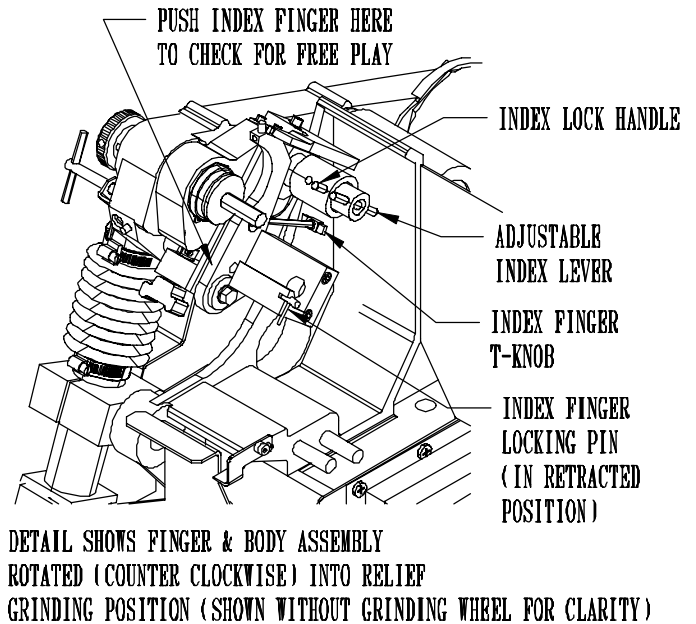

FIG. 6
The Finger and Body Assembly of the grinding head rotates on the Grinding Head Housing to change positions between spin grinding and relief grinding. To change the position of the finger and Body Assembly you have to pull out the Plunger Pin on the left side of the Grinding Head Housing. See FIG. 5. When you are going to perform spin grinding operations the Finger and Body Assembly must be rotated clockwise (looking at it from the right). This rotates the fingers out of the reel blade path. See FIG. 5. When you are going to perform relief grinding operations the Finger and Body Assembly must be rotated counter clockwise. This rotates the finger into position to touch and control the reel blades. See FIG. 6.
STEP 1: Once you have the Grinding Head positioned with a reel blade resting on the Fixed Relief Finger high point, you want about 1/32" [0.8mm) to 1/16" [1.5mm) free play of the Index Finger behind the reel blade. The Index Finger is spring loaded to the up position. To check free play, push down on the Index Finger. See FIG. 6. To make this adjustment you have to first turn the Index Lock Handle counter clockwise to unlock the adjustable Index Lever. See FIG. 6. If there is no free play of the Index Finger you want to rotate the Adjustable Index Lever clockwise. If there is more than 1/16" [1.5 mm) free play you want to rotate the Adjustable Index Lever counterclockwise. When the Index Finger is in proper position rotate the Index Lock Handle clockwise to lock the Adjustable Index Lever.
The up travel limit is restricted to keep the Index Finger in the reel blade index path. This is done to properly catch the next blade when indexing or to allow clearance between the back side of the Index Finger and the front side of the blade when the grinding carriage is making its return trip to the home position. If the Index Finger has problems catching the next blade turn the Index Finger T-knob counterclockwise. If there isn't enough clearance between the back side of the Index Finger and the front side of the reel blade turn the Index Finger T-Knob clockwise. See FIG. 6. Adjust the T-knob in by 1/8" (3mm) into the hole opening so the up travel is restricted. Check the up and down swing of the Index Finger for clearance on both sides of the reel blade for the relief grind.